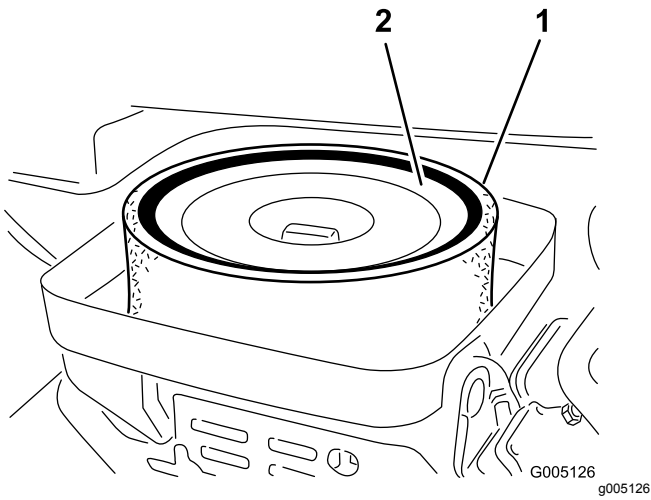

Figure 31
3. Remove the wing nut securing the elements to the air-cleaner body (Figure 31).
4. If the foam element is dirty, remove it from the paper element (Figure 31). Clean it thoroughly, as follows: